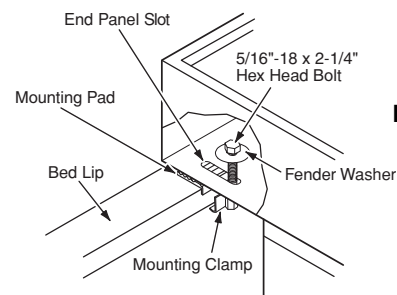

Figure 3
- Install all bolts in leg mounting feet as shown in Figure 3.
- Insert the two mounting clamps as shown in Figure 3.